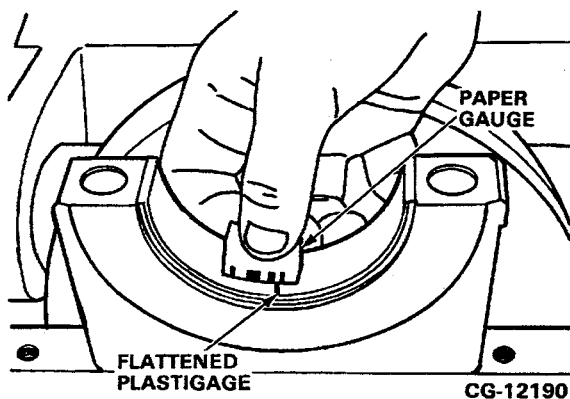

Figure 7.74. Check Main Bearing Clearance
- g. Do not disturb Plastigage®. Using the Plastigage® envelope, measure the widest point of the Plastigage®, **Figure 7.74**. This reading indicates the bearing clearance in thousandths of an inch or millimeters.